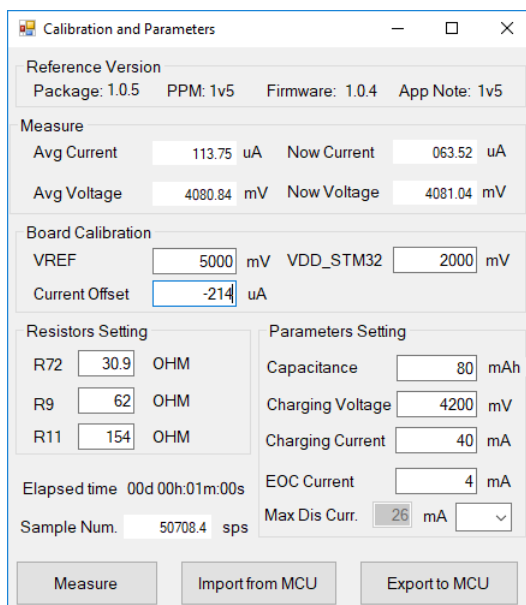

Figure 16: Measure Current Offset and Enter Values
4. Enter the value in the **VREF Voltage** field, see Figure 16.
3. Enter the value in the **VDD_STM32 Voltage** field, see Figure 16.